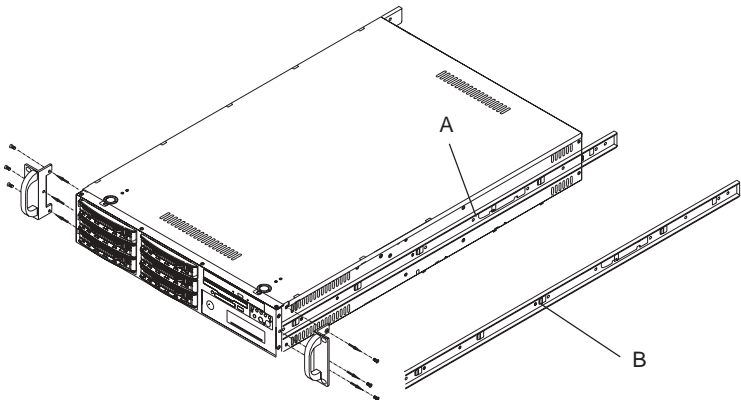
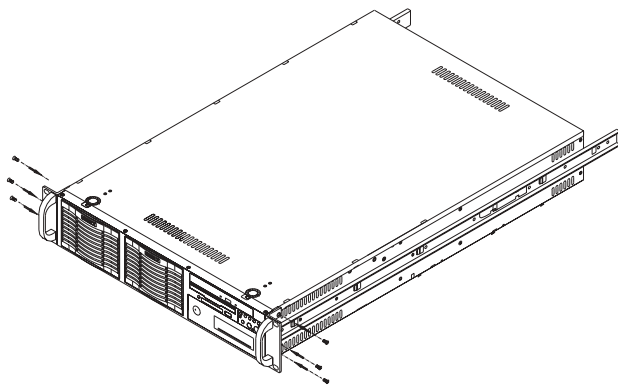

Figure 2-1. Identifying the Sections of the Rack Rails
Figure 2-2. Installing Chassis Rails
You should have received two rack rail assemblies with the SuperServer 6021i. Each of these assemblies consist of three sections: an inner fixed chassis rail that secures to the 6021i (A) and an outer fixed rack rail that secures directly to the rack itself (B). A sliding rail guide sandwiched between the two should remain attached to the fixed rack rail. (See Figure 2-1.) The A and B rails must be detached from each other to install.
Remove the handles on the 6021i chassis (see Figure 2-1) and position the fixed chassis rail sections along the side of the 6021i chassis making sure the two screw holes line up. Note that these two rails are left/right specific. Slide the rails on to the hooks on both sides of the chassis. Screw the rail securely to the side of the chassis, and then reinstall the chassis handle (see Figure 2-2). Repeat this procedure for the other rail on the other side of the chassis. You will also need to attach the rail brackets when installing into a telco rack.